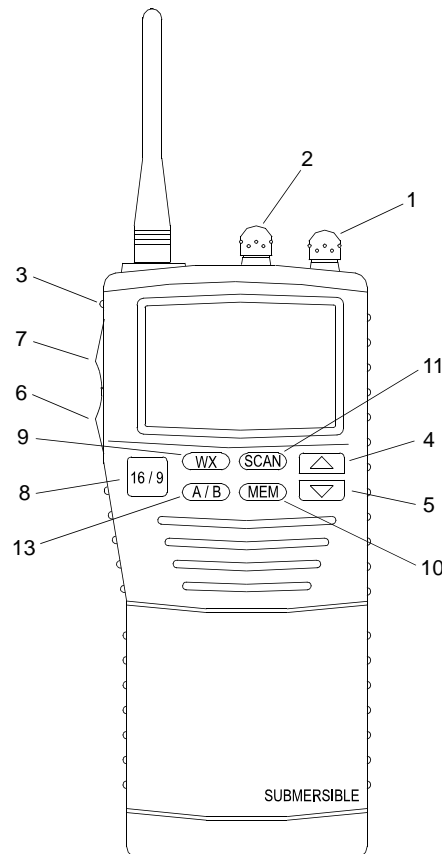
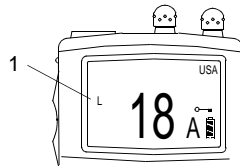
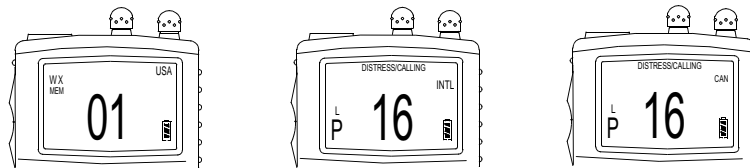

Figure 8. VHF/FM Handheld Transceiver
Figure 11. Low Power Transmission Displayed
Figure 12. Operating Modes Displayed
- a. Turn POWER/VOLUME knob (figure 8, item 1) clockwise.
- b. Rotate SQUELCH CONTROL knob (figure 8, item 2) fully counterclockwise to SQUELCH OFF position.
- c. Rotate POWER/VOLUME CONTROL knob (figure 8, item 1) until noise or audio from the speaker can be heard.
- e. To find squelch threshold, rotate SQUELCH CONTROL knob (figure 8, item 2) clockwise until noise stops.
- f. To turn on radio light for 5 seconds, press LAMP/KEY LOCK key (figure 8, item 3).
- g. To turn off light sooner than 5 seconds, press LAMP/KEY LOCK key (figure 8, item 3).
- a. Press UP ARROW key (figure 8, item 4) or DOWN ARROW key (figure 8, item 5) to change channels.
- b. Press LAMP/KEY LOCK key (figure 8, item 3) for one second to lock channel in operating mode.
- d. To unlock channel, press LAMP/KEY LOCK key (figure 8, item 3) for one second.
- c. Press LAMP/KEY LOCK key (figure 8, item 3) for one second to lock channel in operating mode.
- e. Press H/L key (figure 8, item 6) until L (figure 11, item 1) is displayed for transmissions over a short distance.
- f. If low power is not effective, press H/L key (figure 8, item 6) until H is displayed.
- g. Press PTT switch (figure 8, item 7) to transmit.
- h. Release PTT switch (figure 8, item 7) when transmission is completed.
- a. To access an operating mode, hold down 16/9 key (figure 8, item 8) and press WX key (figure 8, item 9) to change mode of receiver to USA, INTERNATIONAL or CANADA (figure 12).
- a. Press WX key (figure 8, item 9) to receive a weather channel.
- b. Press UP ARROW key (figure 8, item 4) or DOWN ARROW key (figure 8, item 5) to change to other weather channels
- c. Press WX key (figure 8, item 9) to exit from weather channels and return to the previous non-weather channel.
- a. Select desired channel to be scanned using UP ARROW key (figure 8, item 4) or DOWN ARROW key (figure 8, item 5).
- b. Press MEM key (figure 8, item 10) to store channel into transceiver's memory.
- d. Press SCAN key (figure 8, item 11) to start scan.
- e. Press SCAN key (figure 8, item 11) to stop scan.
- a. Select desired channel to be deleted using UP ARROW key (figure 8, item 4) or DOWN ARROW key (figure 8, item 5).
- b. Press MEM key (figure 8, item 10) while channel number to be deleted from scan memory is displayed.
- a. Turn transceiver off using POWER/VOLUME knob (figure 8, item 1).
- b. Press and hold the SCAN key (figure 8, item 11) and WX key (figure 8, item 9) while turning on transceiver.
- a. To change from channel 16 to channel 09 and set the priority channel, hold down 16/9 key (figure 8, item 8) and press MEM key (figure 8, item 10).
- b. Press MEM key (figure 8, item 10) to change to channel number programmed as A channel.
- c. Press MEM key (figure 8, item 10) to change to channel number programmed as B channel.
- d. Press SCAN key (figure 8, item 11) for at least one second for priority scanning during normal scanning.